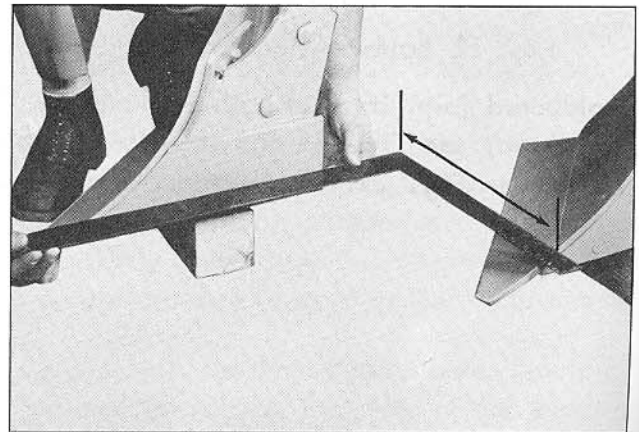

Fig. 20 Measuring Width of Cut
5. Measure the width of cut by placing a carpenter's square as shown in Fig. 20. The reading should be the width of cut plus or minus $1/4$ in. i.e. $13-3/4$ in. to $14-1/4$ in. for 14 in. bottoms.